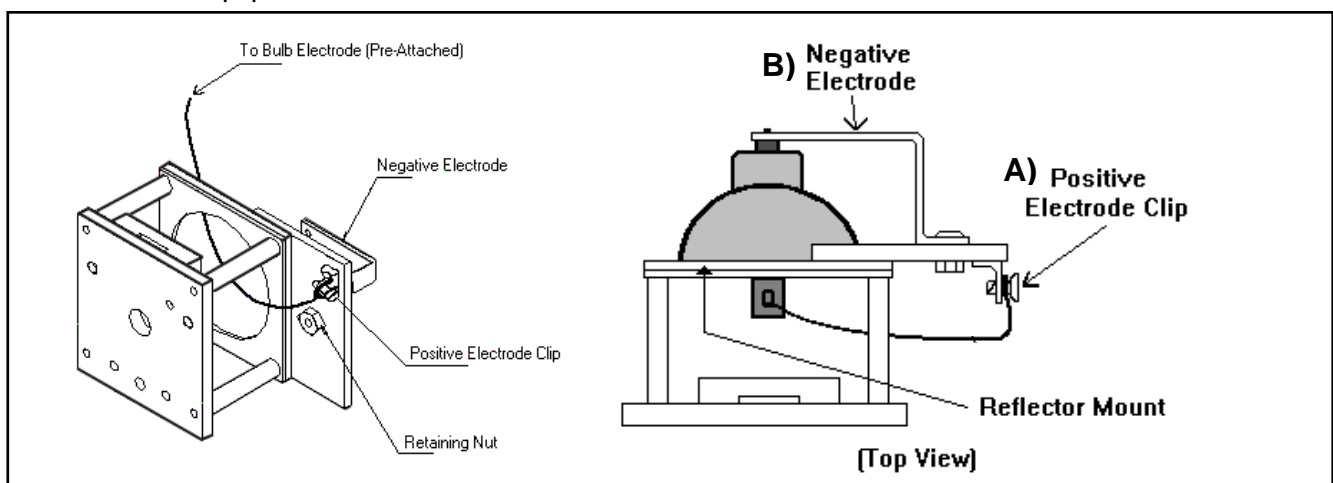

Figure 1.1
4. To remove the old bulb: A) remove the positive electrode wire from electrode board (see Figure 1.1). Do not disconnect the wire from lamp. B) Gently lift the brass negative electrode while lifting the bulb/reflector out.
6. Attach the electrode wire to the positive electrode board (see Figure 1.1).